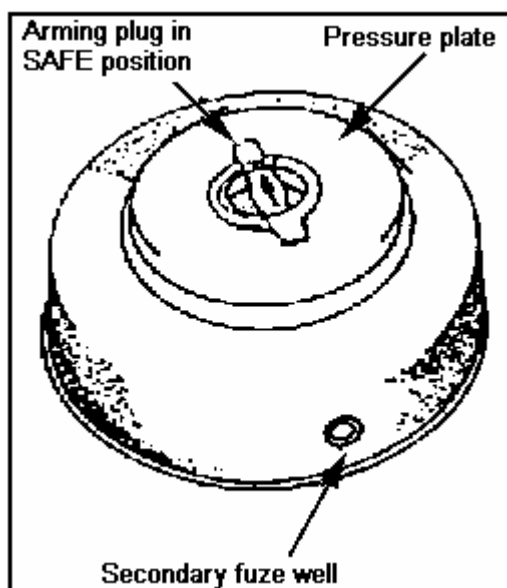

Figure 052-192-1107-1
- b. Use the M20 wrench, if needed, to unscrew and remove the arming plug from the mine (Figure 052-192-1107-1).